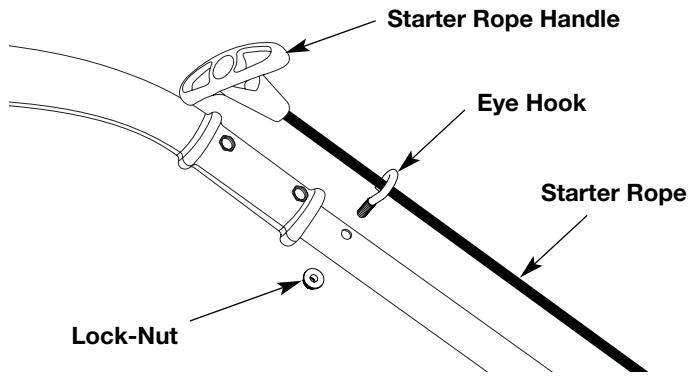

Fig. 3
9. Pull out the starter rope and run it into the eye hook (Fig. 3).
10. Insert the eye hook into the remaining hole on the straight metal shaft (Fig. 3).
11. Screw the nut onto the eye hook (Fig 3) and use a $7/16''$ wrench to tighten. **DO NOT OVERTIGHTEN**.